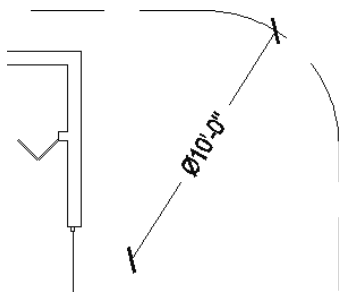

FIGURE 12.28: The diameter dimension positioned on the curve
4. Click to place the radius text in the dimension. The \emptyset prefix indicates that this is a diameter dimension. Where you click on the curve determines the angle of the radius dimension (see Figure 12.28).